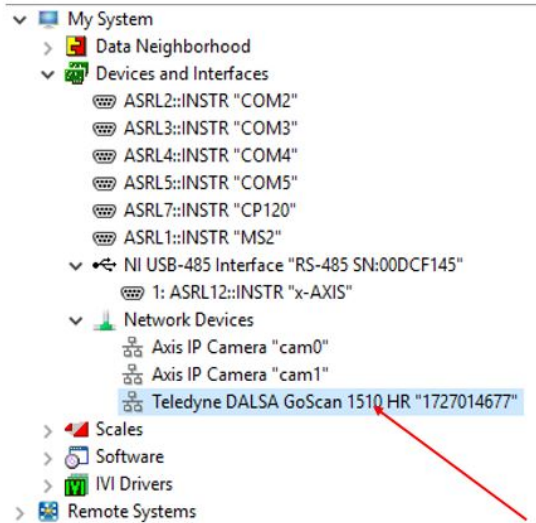

Figure 52. NIMAX device manager
2. Select **Device and Interfaces>Network Devices> Teledyne DALSA GoScan 1510HR** (Figure 52)